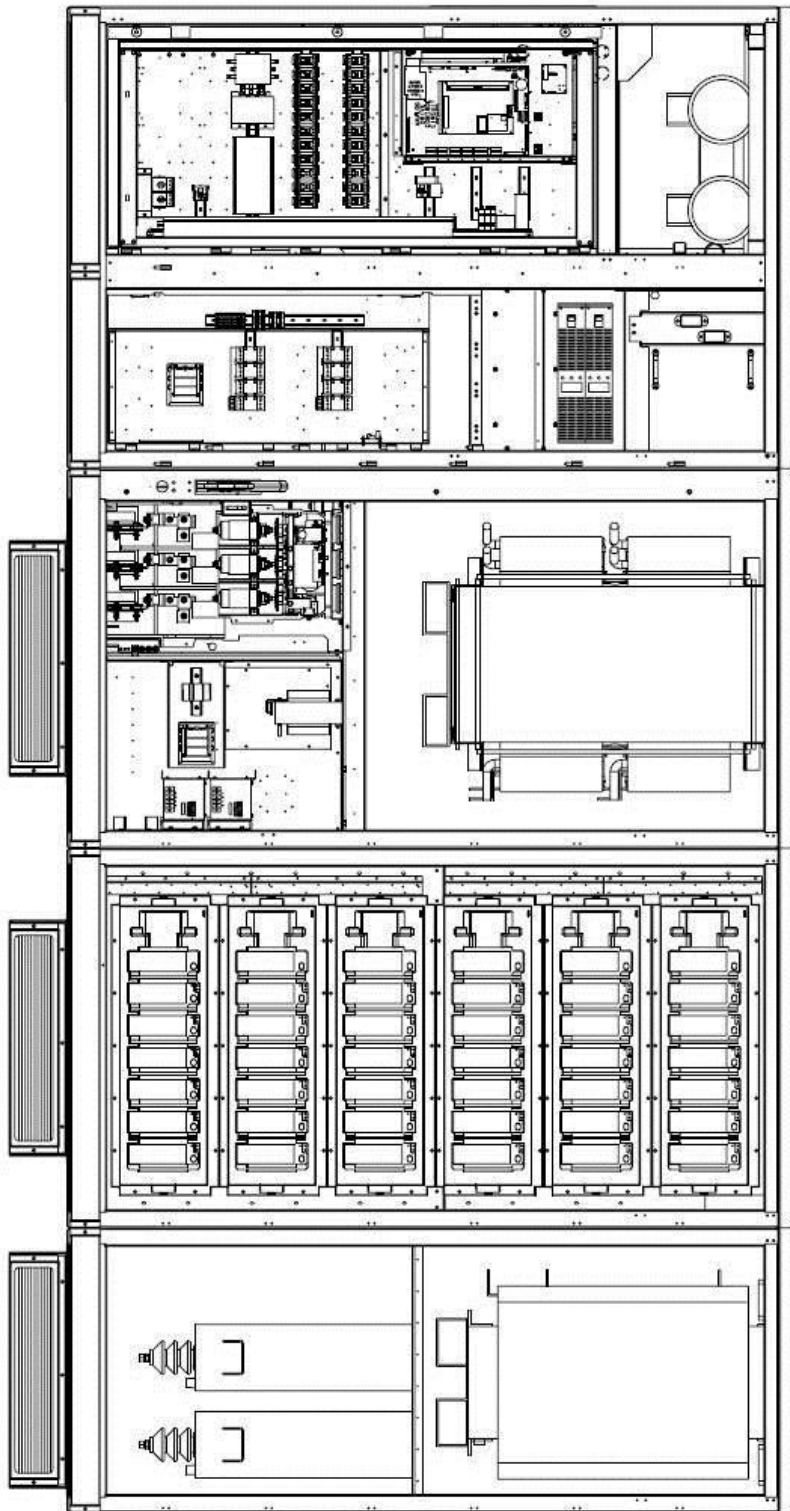

Figure 2.38 – Typical Footprint PowerFlex 7000 “C” Frame Marine Drive Structure Layout
- Small Footprint AFE rectifier (Figure 2.38)